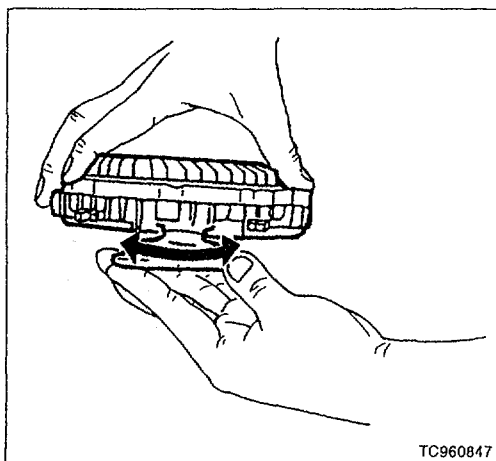

Figure 1
4. Inspect the fan coupling for wobbling (Figure 1), oil leakage or bent/broken bimetal before assembly.